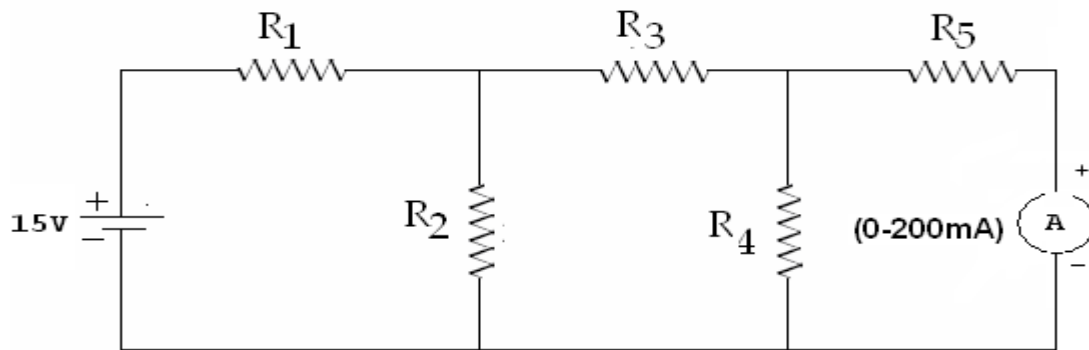

Fig. 2
2. Connect the circuit diagram as shown in fig.2 and measure the Norton's equivalent current I_N .